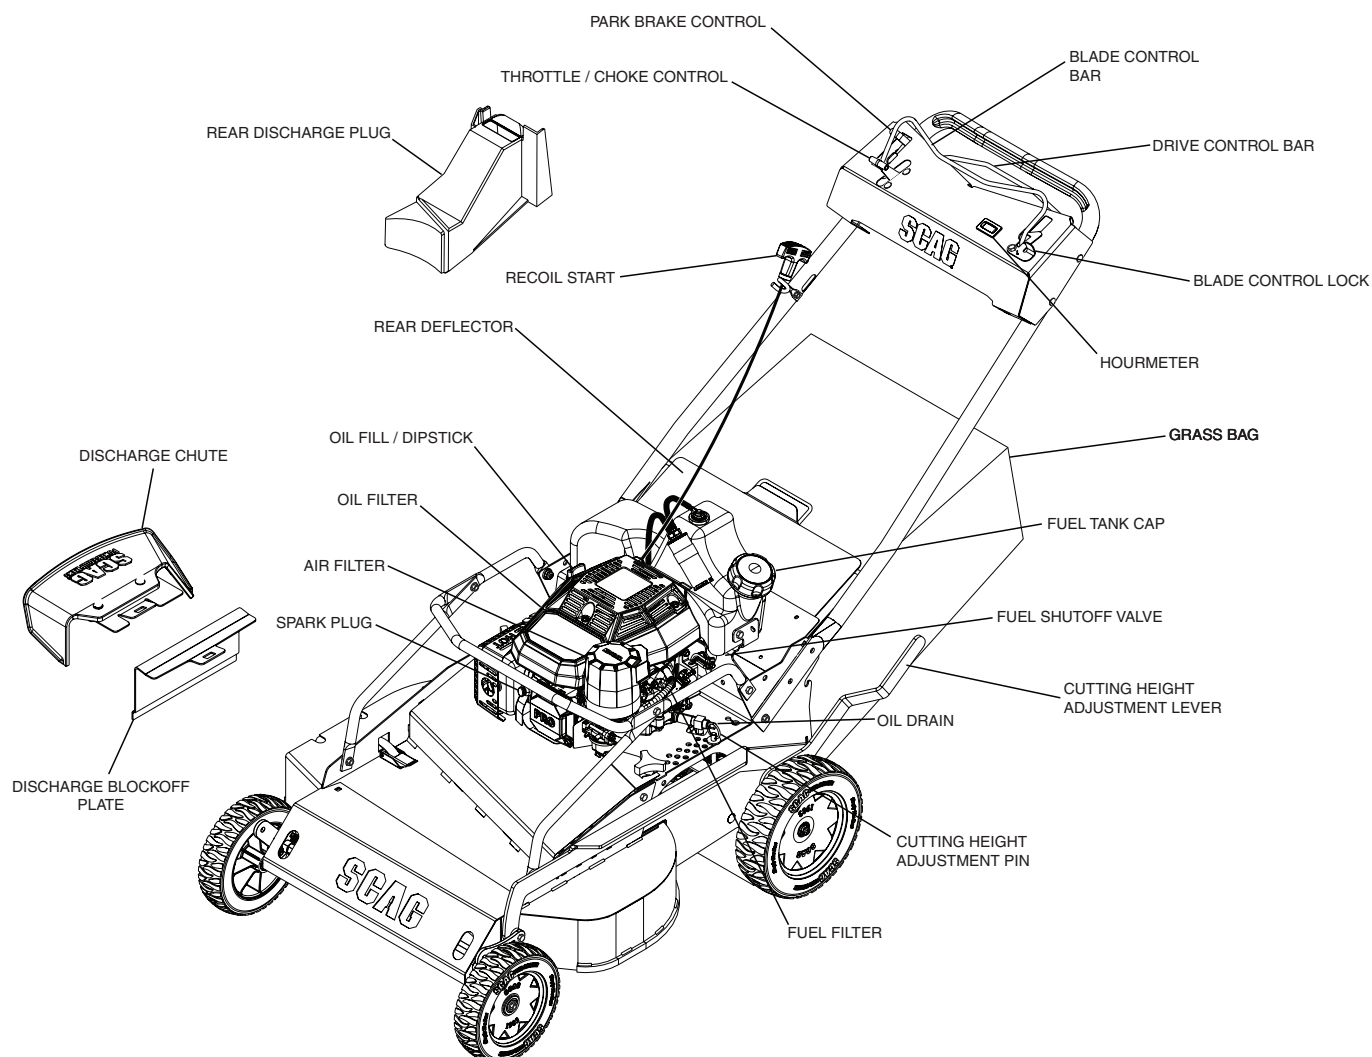

Figure 4-1. Controls and Instruments
1. **Recoil Start (Figure 4-1).** The recoil start is used to start the engine.
2. **Blade Control Bar (Figure 4-1).** Used to engage and disengage the cutter blade drive system. Pulling the control bar will engage the cutter blades. Releasing the control bar will disengage the cutter blades.
3. **Engine Throttle / Choke Control (Figure 4-1).** Used to control the engine speed and choke control. Pushing the lever forward increases engine speed. Pulling the lever back decreases engine speed. Push the lever all the way forward past the detent to engage the choke when starting a cold engine. Full back position is the IDLE position. Full forward to detent is the cutting position.
4. **Hourmeter (Figure 4-1).** Indicates the number of hours the engine has been operated. It operates whenever the engine is running.
5. **Drive Control Bar (Figure 4-1).** Used to engage and disengage the mower forward drive system.
6. **Parking Brake Control (Figure 4-1).** Used to engage and disengage the parking brakes. Pull the lever back to engage the parking brake. Push the lever forward to disengage the parking brakes.
7. **Blade Control Lock (Figure 4-1).** Use to lock the blade control bar in the neutral position.
8. **Grass Bag (Figure 4-1).** Use to bag and collect grass clippings while mowing.
9. **Fuel Tank Cap (Figure 4-1).** Use to fill the fuel tank with fuel.
10. **Fuel Shutoff Valve (Figure 4-1).** Used to shut off fuel supply to the engine.
11. **Oil Drain Valve (Figure 4-1).** Used to drain the oil from the engine.
12. **Cutting Height Adjustment Lever (Figure 4-1).** Used to set the cutter deck at the desired cutting height.
13. **Cutting Height Adjustment Pin (Figure 4-1).** Used to set the cutter deck at the desired cutting height.
14. **Fuel Filter (Figure 4-1).** Used to filter the fuel supply to the engine. Refer to engine owner's manual supplied with this unit when servicing.
15. **Discharge Blockoff Plate (Figure 4-1).** Used to shut off the discharge of grass clippings out of the side discharge opening. Install when mulching or using the grass bag.
16. **Discharge Chute (Figure 4-1).** Used to allow the discharge of grass clippings out of the side discharge opening. Install when side discharging.
17. **Spark Plug (Figure 4-1).** Used to supply spark to the engine. Refer to engine owner's manual supplied with this unit when servicing.
18. **Air Filter (Figure 4-1).** Used to filter the air supply to the engine. Refer to engine owner's manual supplied with this unit when servicing.
19. **Oil Filter (Figure 4-1).** Used to filter the oil supply in the engine. Refer to engine owner's manual supplied with this unit when servicing.
20. **Oil Fill / Dipstick (Figure 4-1).** Used to add and check the level of oil in the engine. Refer to engine owner's manual supplied with this unit when servicing.
21. **Rear Discharge Plug (Figure 4-1).** Used to shut off the discharge of grass clippings out of the rear discharge opening. Install when mulching or side discharging.
22. **Rear Deflector (Figure 4-1).** Used to hold the grass bag and rear discharge plug in place during operation.